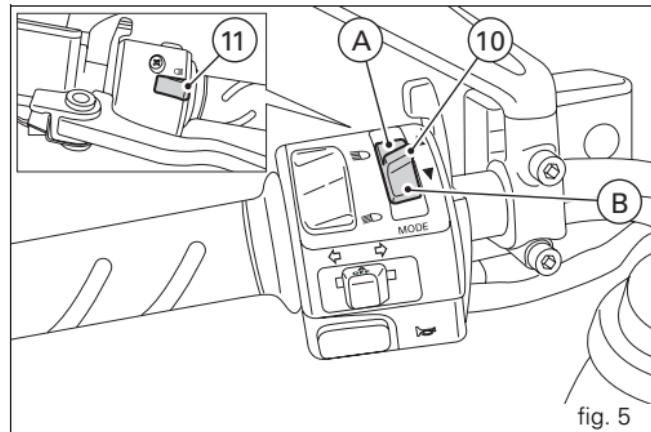

fig. 5
11) High beam headlight flasher switch (fig. 5).